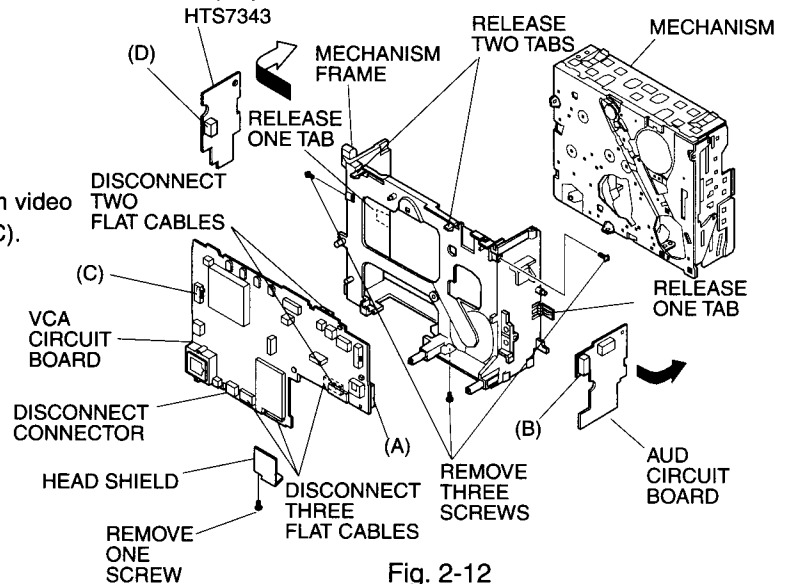

Fig. 2-12
2.11 VCA Circuit Board, AUD Circuit Board, HTS7343 (*1), Mechanism Frame, Mechanism (Fig. 2-12)
- (9) Remove the VCA circuit board and mechanism frame. (See Fig. 2-12)